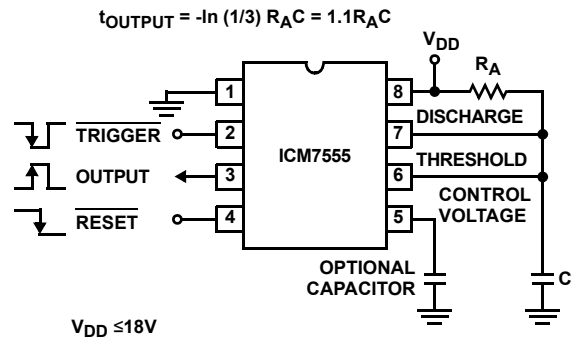

FIGURE 6. MONOSTABLE OPERATION
In this mode of operation, the timer functions as a one-shot (see Figure 6). Initially the external capacitor (C) is held discharged by a transistor inside the timer. Upon application of a negative Trigger pulse to pin 2, the internal flip-flop is set, which releases the short-circuit across the external capacitor and drives the Output high. The voltage across the capacitor now increases exponentially with a time constant  $t = R_A C$ . When the voltage across the capacitor equals  $\frac{2}{3} V+$ , the comparator resets the flip-flop, which in turn discharges the capacitor rapidly and also drives the OUTPUT to its low state. Trigger must return to a high state before the OUTPUT can return to a low state.